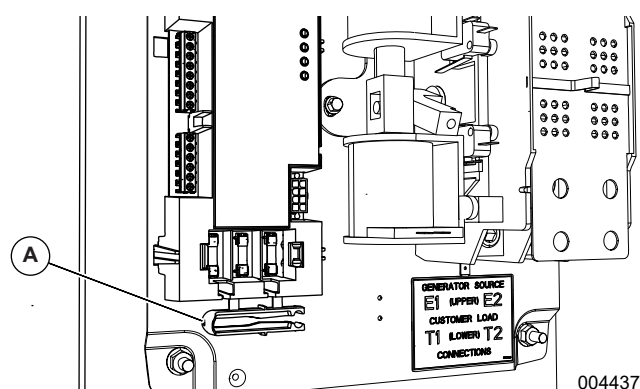

Figure 4-2. Fuse Removal and Installation Tool
See Figure 4-2. A fuse removal and installation tool (A) is included in the SACM housing.